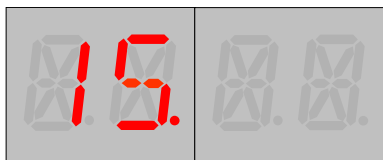

Figure 7a: Navigate to desired SV.
1. Navigate to the desired SV with UP and DOWN. See **Figure 7a**.